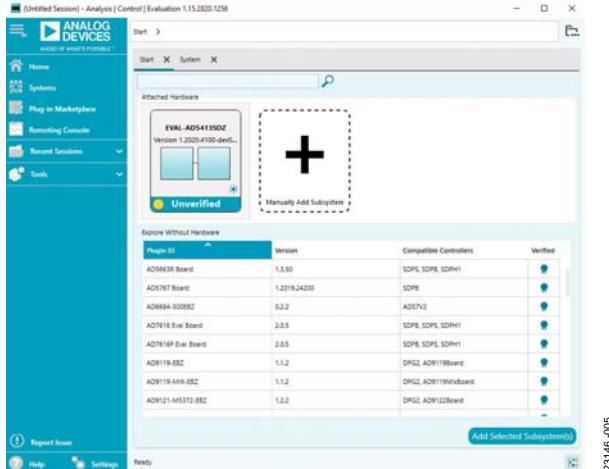
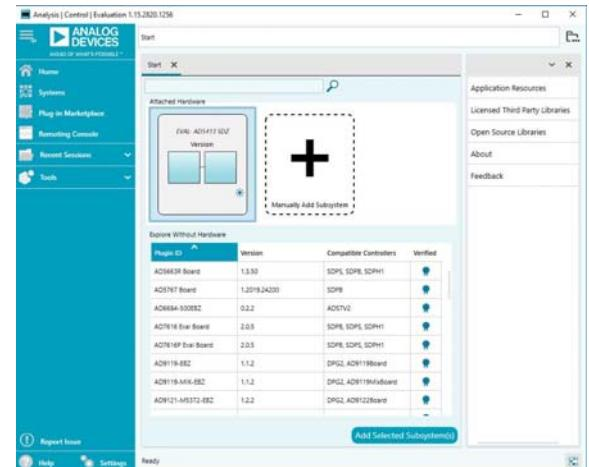
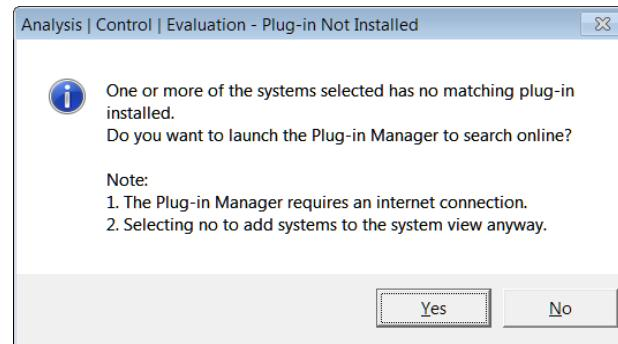
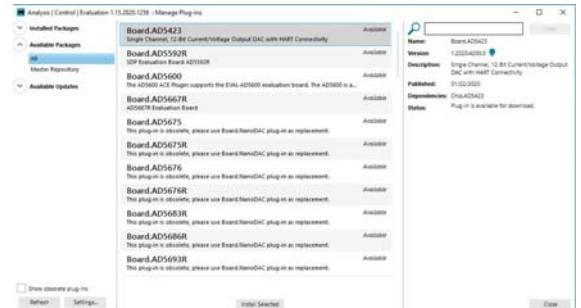

Figure 2. Attached Hardware Section with the EVAL-AD5413SDZ Plugin Connected
Figure 3. EVAL-AD5413SDZ Plugin Not Installed
Figure 4. Installing the Plugin Pop-Up Window
Figure 5. Plugin Manager Window
5. When setting up the EVAL-AD5413SDZ for the first time, you may be required to install the EVAL-AD5413SDZ plugin. If the plugin appears as shown in Figure 2, proceed to Step 7. If the plugin appears as shown in Figure 3, double-click the evaluation board symbol, and the pop-up window shown in Figure 4 appears. Click Yes.
6. The plugin manager window appears, as shown in Figure 5.
7. Find and select the **Board.AD5413** plugin and click **Install Selected**. The EVAL-AD5413SDZ plugin is now installed and displays as shown in Figure 2. In Figure 5 only, the **AD5413** is synonymous with the **AD5423**.